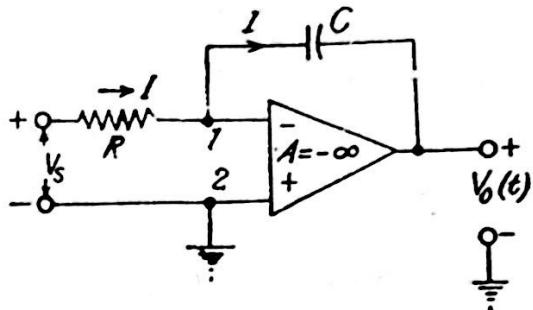

Fig. 21. Integrator.
(5) **INTEGRATOR** : In fig. 21, an integrator is shown. It is an inverting OP-AMP in which feedback resistor R_2 has been replaced by a capacitor, C . Feedback through the capacitor forces a virtual ground to exist at the inverting input terminal. It means the voltage across, C , is simply the output voltage, V_0 . We can write
Problem : A 5 mV, 1 KHz sinusoidal signal is applied to the input of an OP-AMP integrator of fig. 21 for which $R = 100 \text{ k}\Omega$ and $C = 1 \mu\text{F}$. Find the output voltage.